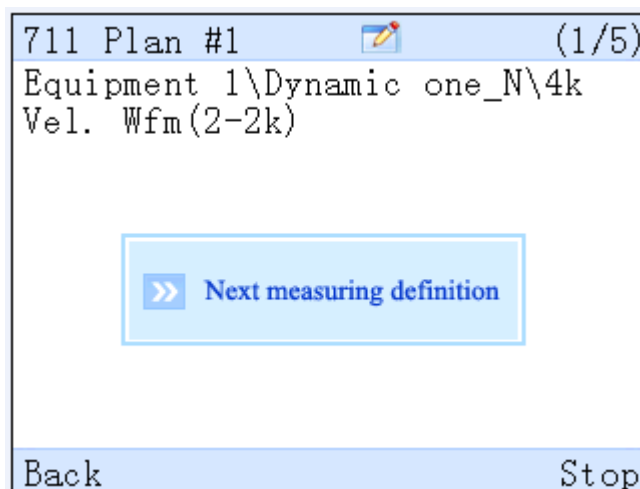

Figure 4-10 Continual dynamic collection
1. **One shot collection:** Press “collect” under this measuring point to finish automatic and continual collection of all measurement defined data, as Figure 4-10. Press “Save” after collection finished, system will automatically navigate to next measuring point to have the same type data collection.